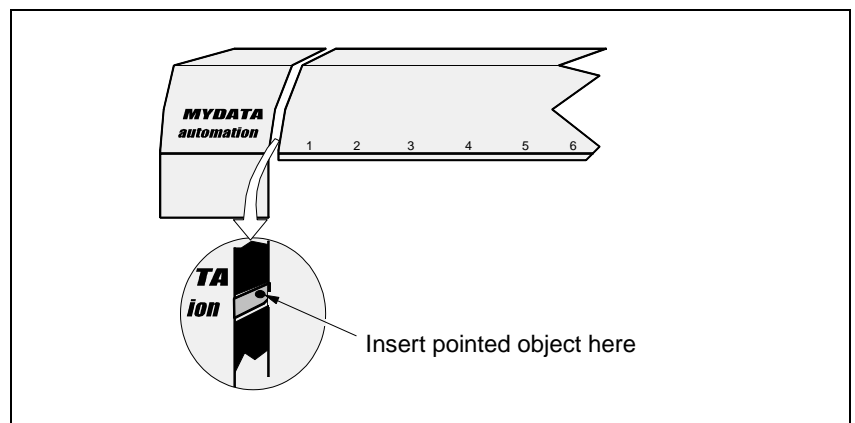

Figure 4-2. Opening the upper machine cover
1. Open the upper left cover using a pointed object, for example a thin screwdriver, see Figure 4-2.